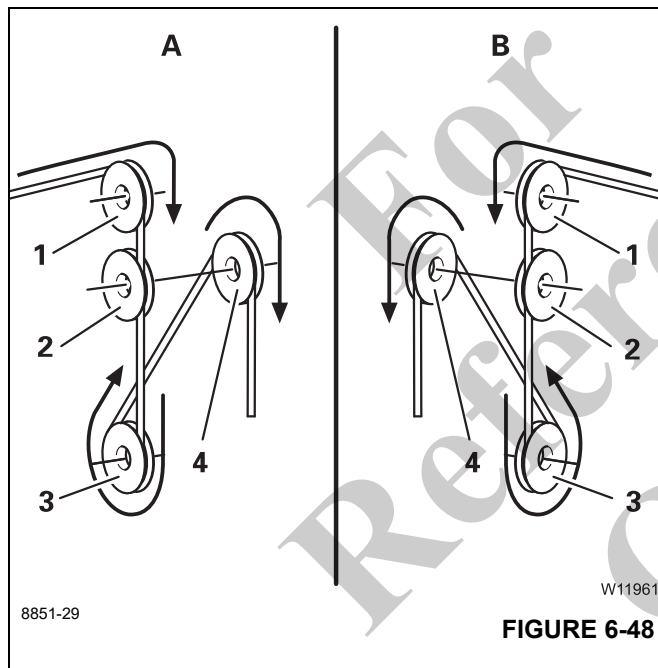

FIGURE 6-48
- Guide the hoist rope over the upper head sheave (1), (Figure 6-48) to the lower head sheave (2).
- Guide the hoist rope from the front around the outer pulley (3), (Figure 6-48) of the hook block, upwards to the main boom head.
- Guide the hoist rope from the rear over the next required head sheave (4), (Figure 6-48), etc.